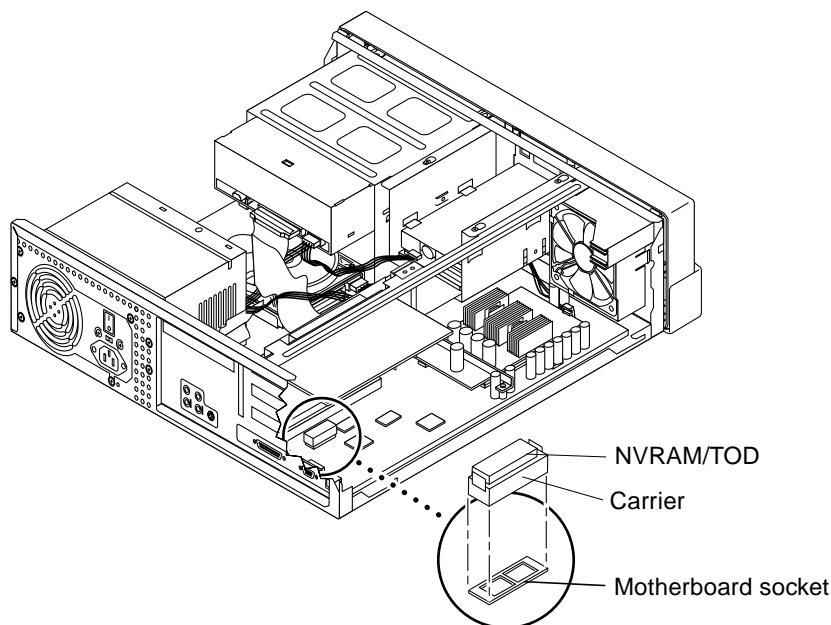

FIGURE 8-2 Removing and Replacing the NVRAM/TOD
2. Remove the NVRAM/TOD as follows (FIGURE 8-2):
1. Replace the NVRAM/TOD as follows (FIGURE 8-2):